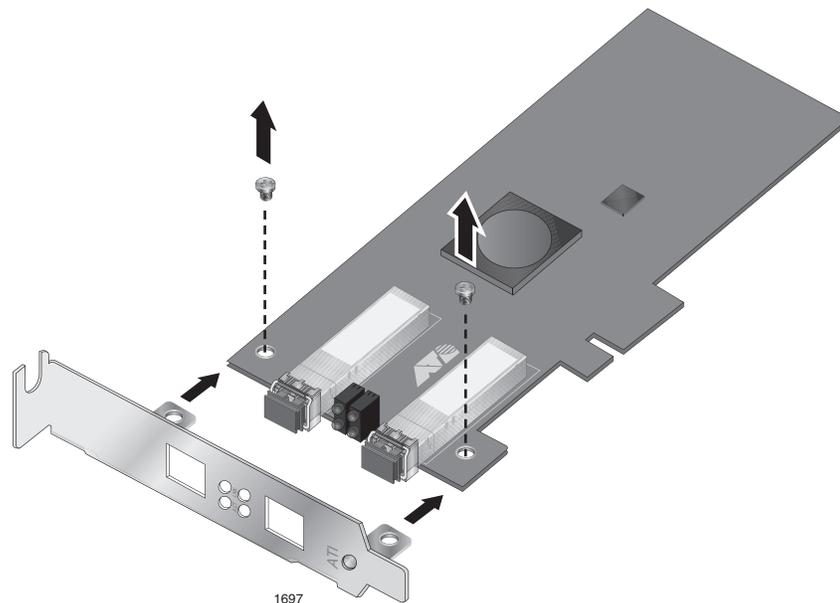

Figure 7. Removing the Low-Profile Bracket
1. Remove the screws that attach the bracket to the adapter. See Figure 7.